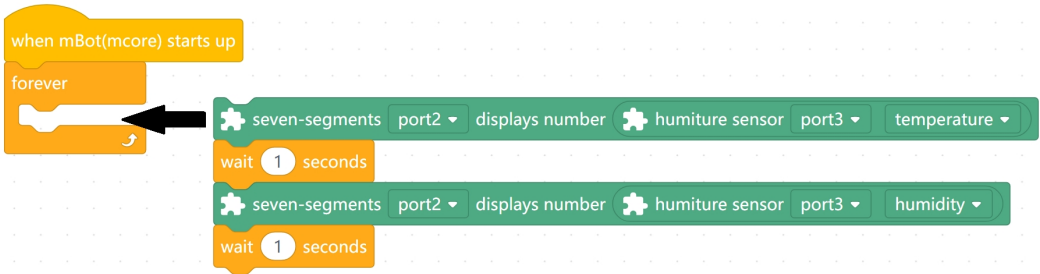

FIGURE 9 Blocks can be inserted into slots in the "forever" block
13. Drag the set of "seven segments" and "wait" blocks into the "forever" block (see Figure 9).